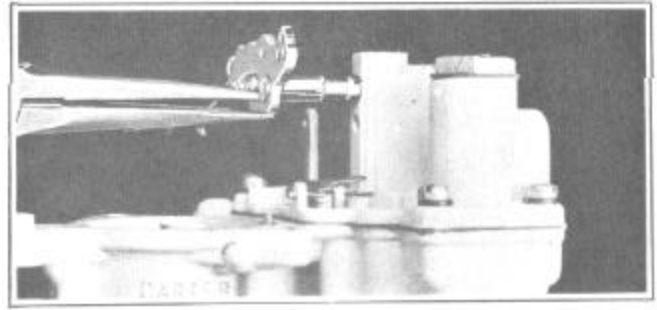

FIGURE 44
18. Install pump arm and countershaft assembly, Figure 44. Install connector link on pump shaft in lower hole in pump arm.